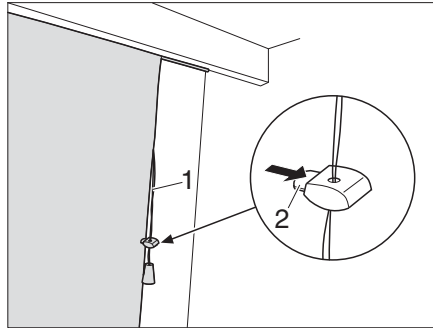

Fig. 81 Gathered blind
- Pull down the cord (Fig. 81,1). The cords pull up and gather the blind.
- Press the clamp (Fig. 81,2) on the holder and slide the holder into the required position.
- Press the clamp (Fig. 81,2) on the holder.